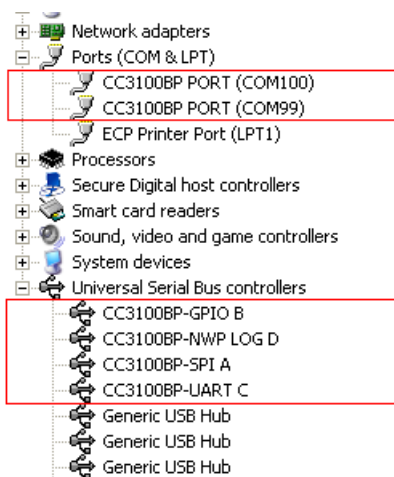

Figure 6. EMUBOOST Board
1. Mount and connect the CC3100 BoosterPack with EMUBOOST board (see Section 3.5). The Windows PC should recognize the device as shown in Figure 6.